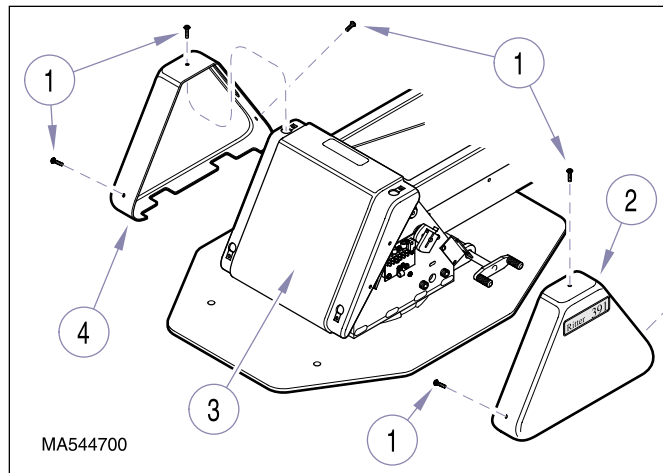

Figure 4-30. Covers Removal / Installation
- (1) Remove three screws (1, Figure 4-30) and R.H. base cover (2) from center base cover (3).
- (7) Install bearing race (13), bearing (12), bearing race (11), lock ring (9), and lock nut (10) on base plate hub (C).
- (8) Using a hammer and punch, tighten lock nut (10) until lock nut becomes hard to turn, but bearing (12) still turns freely without binding when chair top is rotated.
- (9) Back off lock nut (10) approximately 1/8 turn. Then align closest locking tab (D) of lock ring (9) with a locking slot (E) of lock nut (10).
- (10) Using a hammer and punch, bend locking tab (D) of lock ring (9) into locking slot (E) of lock nut (10), locking lock nut in place.
- (11) Install brake disc (8) on base plate hub (C) and secure with four screws (7).
- (12) Install brake shoe (3) in brake cam cutout (A).
- (13) Adjust the rotation brake (Refer to para 4.17).
- (14) Install L.H. base cover (4, Figure 4-30) on center base cover (3) and secure with three screws (1).
- (15) Install R.H. base cover (2) on center base cover (3) and secure with three screws (1).